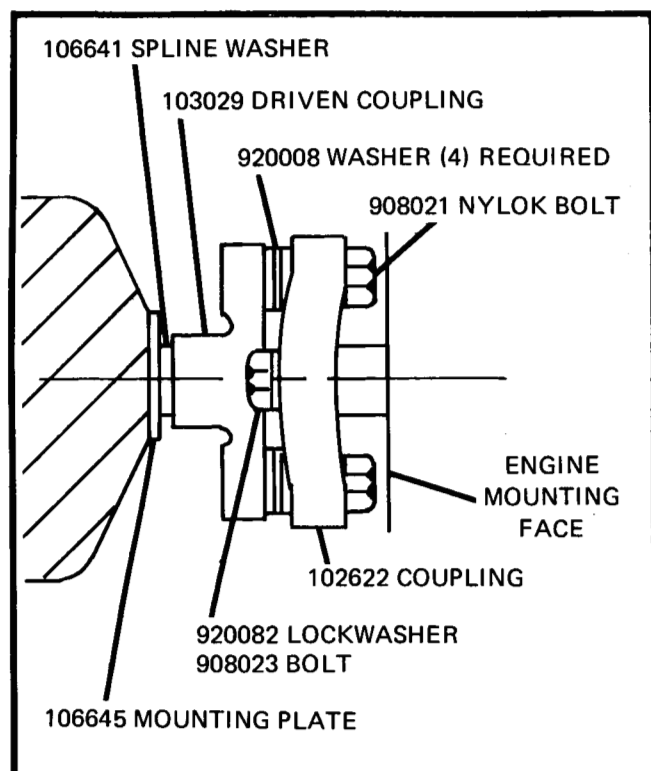

Fig. 1-2 D-160 Flex Coupling
- a. D-160 — install engine/pump flex coupling parts as shown in Fig. 1-2